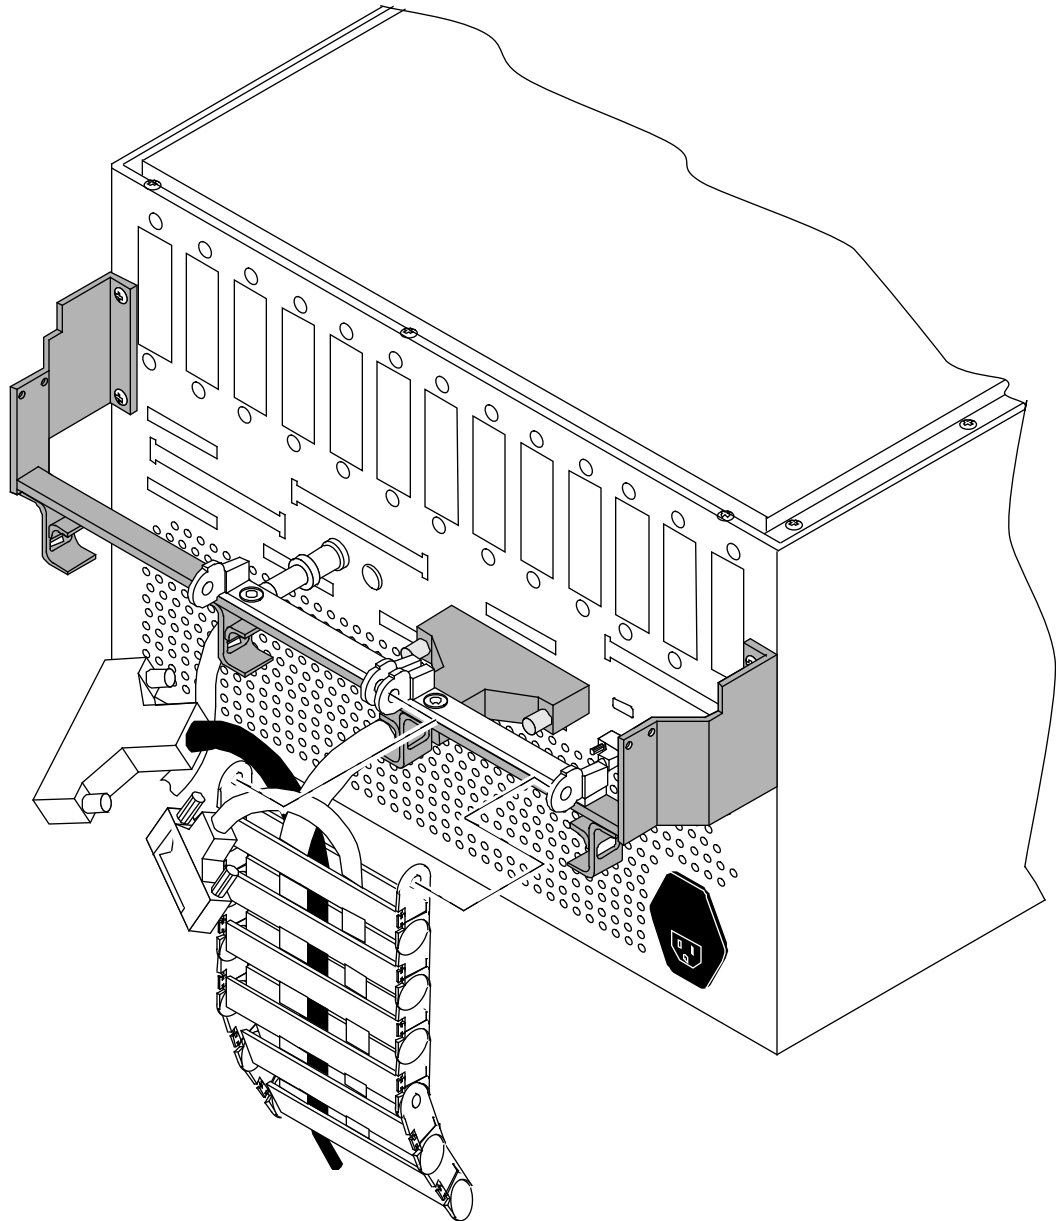

Figure 7. Flexible Cable Way
2. Disconnect the flexible cable ways by removing the two screws that secure them to the VME tray. Refer to Figure 7.
6. Reconnect the flexible cable way using the two screws originally removed from the flexible cable-way bar. Refer to Figure 7.